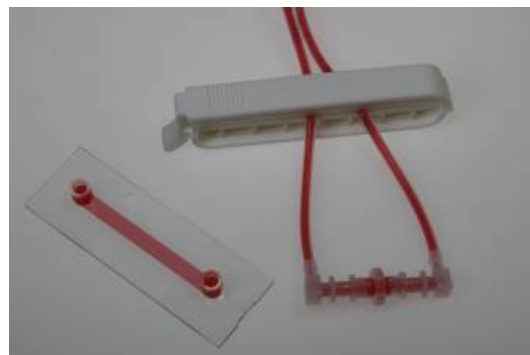

Figure 31 – Clamp the tubing before opening the Female Luer Coupler of the Perfusion Set.
1. Check the tubing for air bubbles and use the hose clip to clamp both tubing arms of the Perfusion Set tubes directly beneath the valve (Figure 31). This action allows the two ends of the Perfusion Set to be disconnected without spilling the medium.